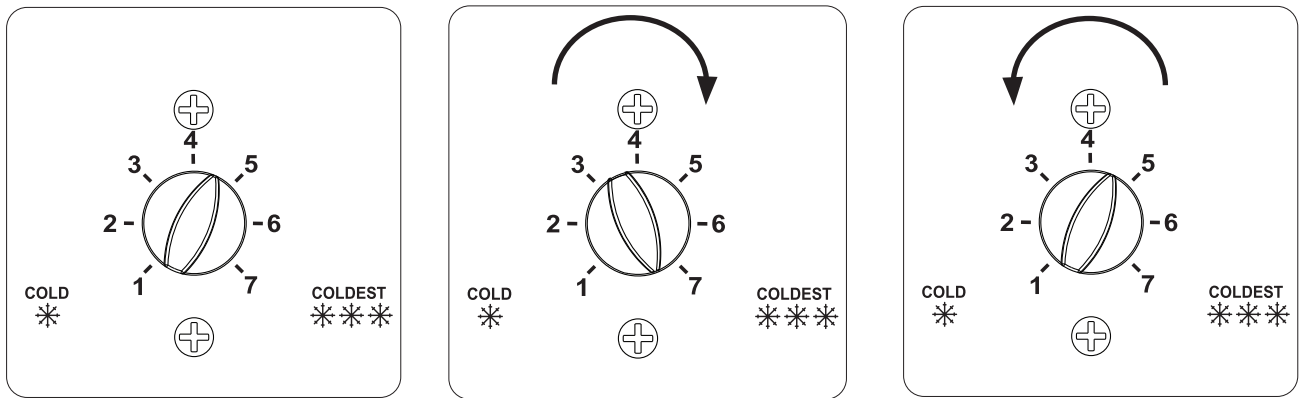

Fig. 2
- 1) Rotate CTCD all the way to the right. Wait 1 to 5 sec. then rotate back to original setting. Defrost initiated. See Fig. 2.